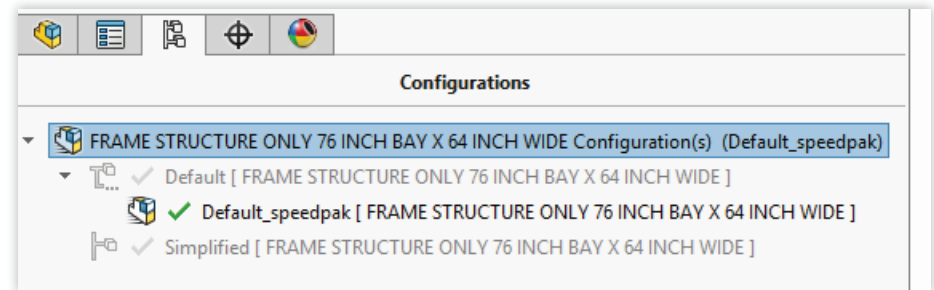

Fig. 19
3. Select the **green check mark** when you're done defining what you want to include or exclude from the operation. See Fig. 19.